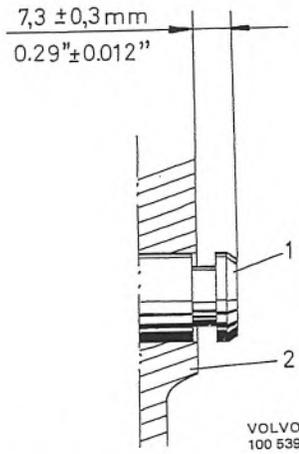

Fig. 4-20. Installing reverse shaft
1. Fit the striker lever and striker. Fit the reverse gear and reverse shaft. The reverse shaft is fitted so that it projects 7.0–7.6 mm (0.276–0.300") outside the gearbox housing, see Fig. 4-20.